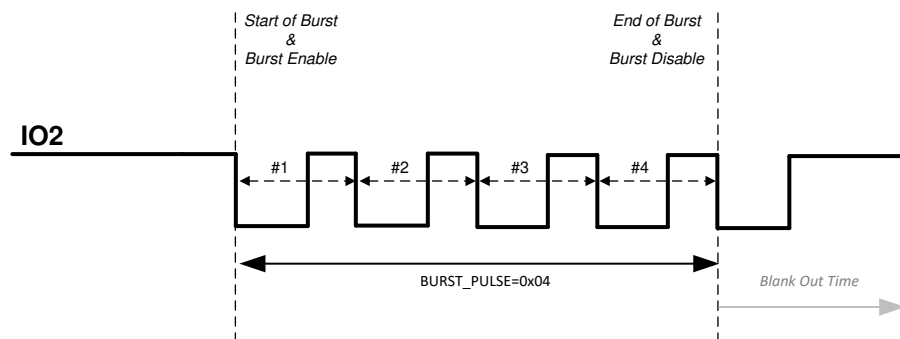

Figure 18. IO_MODE 3 Description
- **IO_MODE = 3:** In this mode, burst enable and start of burst are both triggered by the falling edge of IO2. TI recommends that IO2 pin is kept pulled up to VDD for this mode. The device then expects a clock at IO2 pin to generate pulses on the OUTA/OUTB pins as shown in Figure 18. The number of pulses are counted by counting falling edge to next falling edge transitions on IO2 once the start of burst is triggered. End of burst sequence is signaled when the number of pulses defined in BURST_PULSE are sent. After end of burst, a blank-out timer interval defined by the DRV_PLS_FLT_DT register is started to prevent triggering of a new start of burst in the event if the IO2 pin is still toggling. After the start of burst, the state of OUTA and OUTB pins are determined by IO1 and IO2 pins as shown in Table 23.